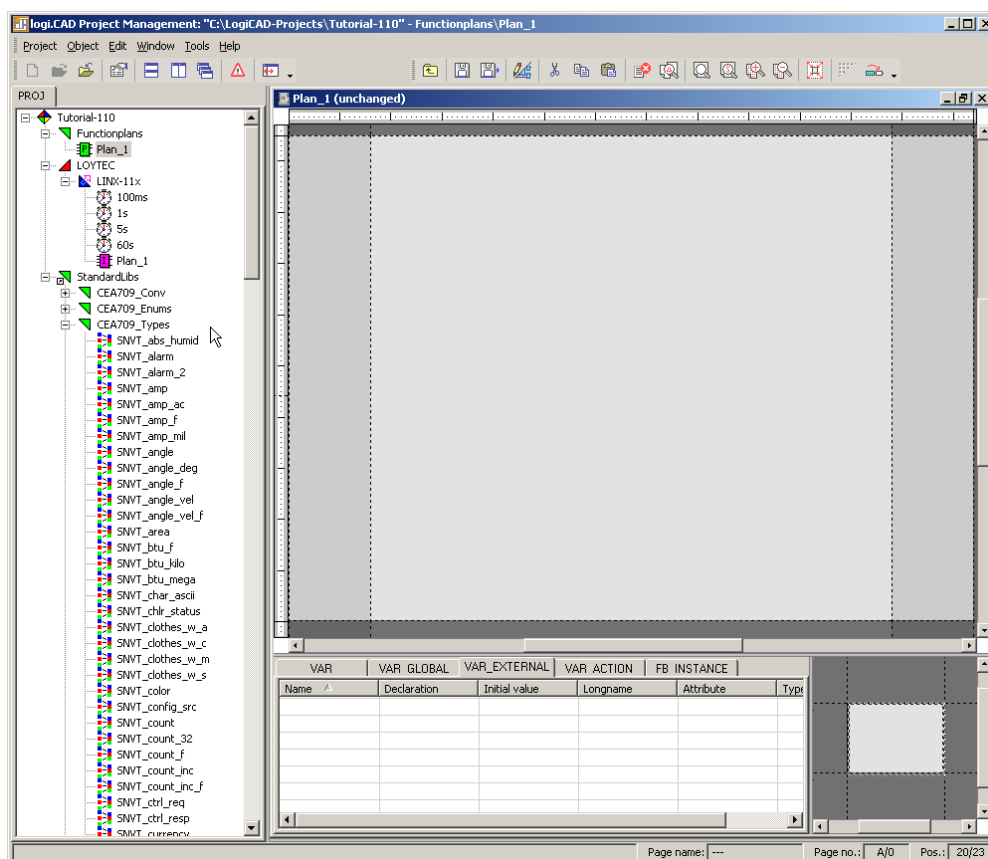

Figure 53: Edit Plan_1
7. As shown in Figure 53 below, expand the tree element **Functionplans** and double click **Plan_1** in order to start editing the plan.